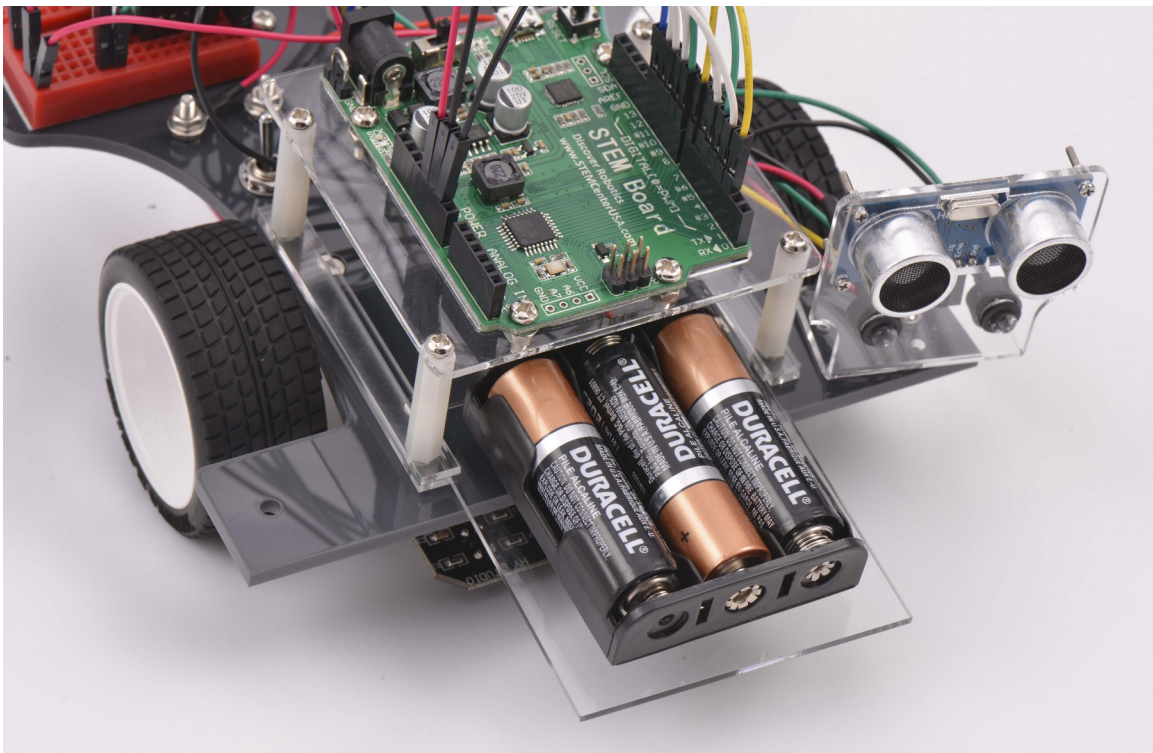

Figure 2.43
Insert three (3) AA batteries in the battery socket, as shown in figure 2.43.